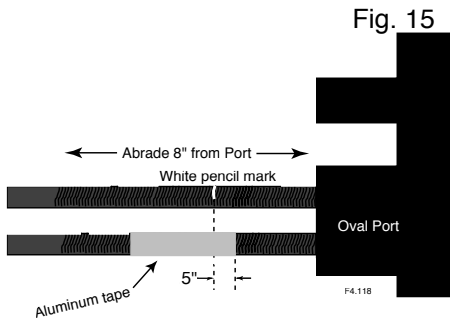

Fig. 15
5. Wrap one lap of aluminum tape around each cable. The edge of the tape closest to the closure should be 1/2" inside the white mark on the cable as shown in Figure 15.